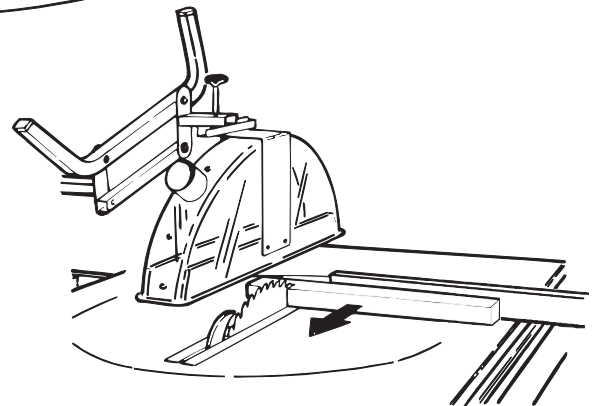

Fig. 13
- B** Raise blade to desired elevation and lock in place. Place workpiece on infeed table against fence. Slide infeed table containing workpiece towards you to make cut Fig. 13.